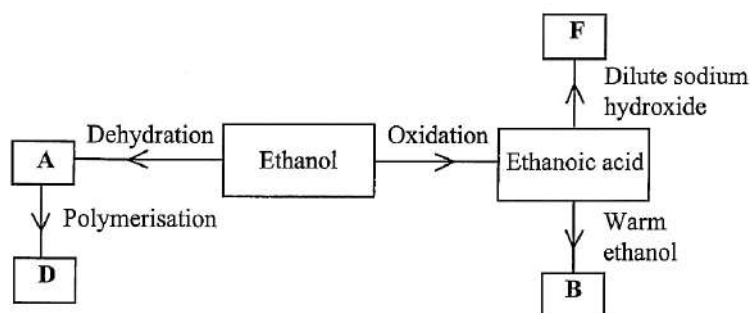

Figure 1
- (c) Study the flow chart in **Figure 1** below and answer the questions that follow.